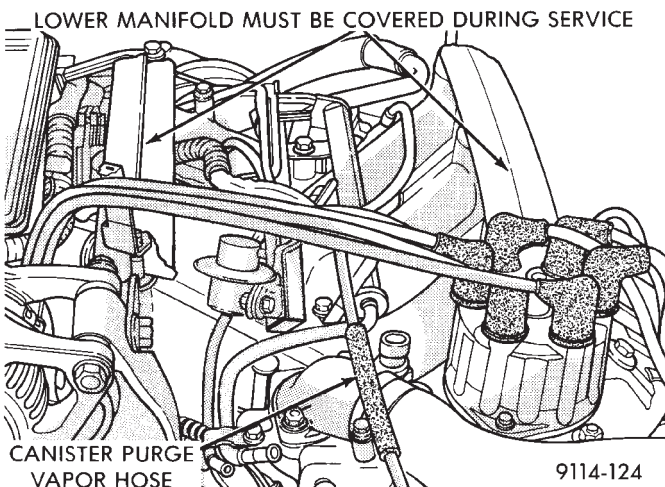

Fig. 10 Vacuum Connections for Fuel Rail and Fuel Pressure Regulator
- (10) Connect vacuum harness to fuel pressure regulator and fuel rail assembly (Fig. 10).
- (11) Remove covering from lower intake manifold and clean surface.